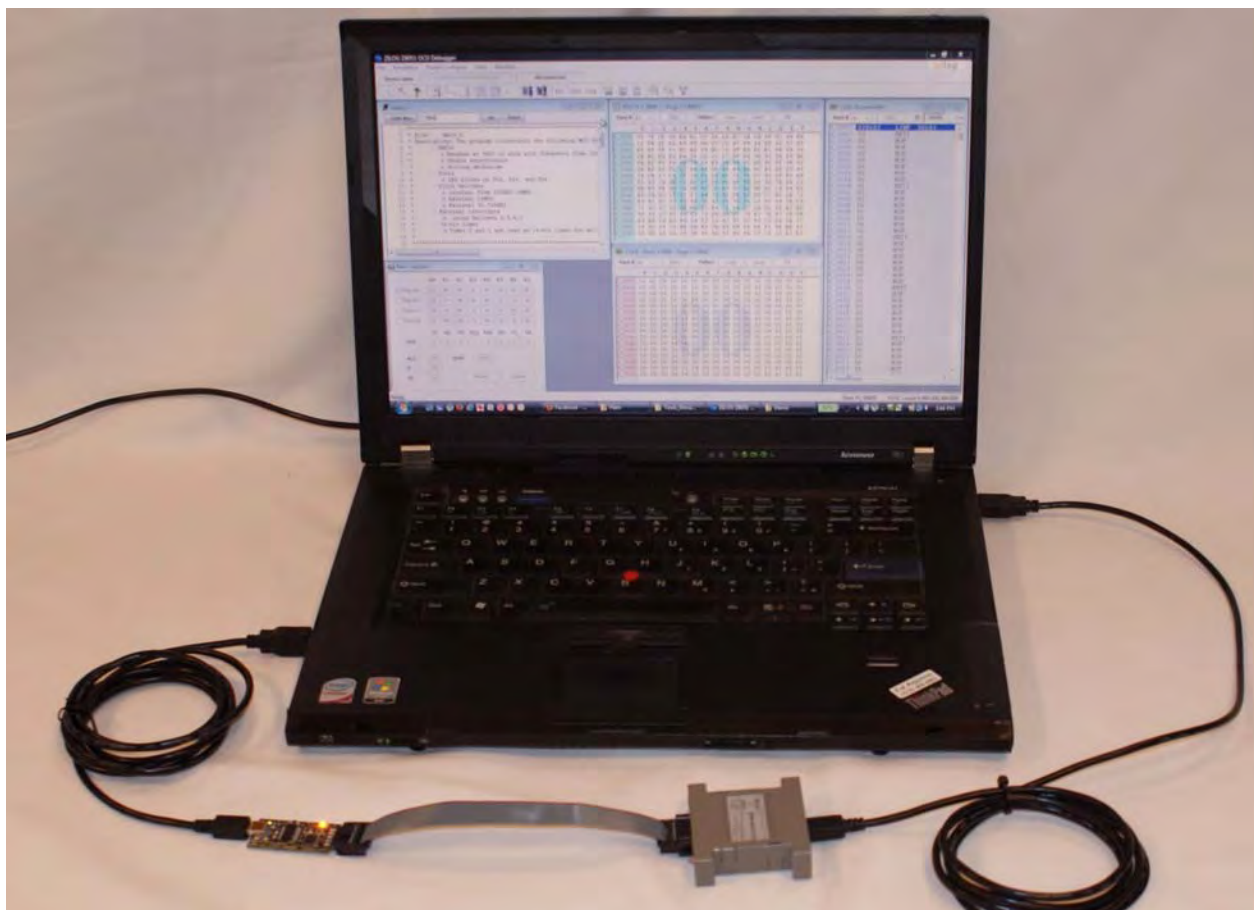

Figure 14. An Example Setup
4. When the installation is complete, plug in the Mini-B connector of the second USB cable into the Board, and the larger A connector into the USB port of your PC. Refer to Figure 14 on page 16 for guidance.
- Figure 14 shows an example of a completed hardware and software setup.